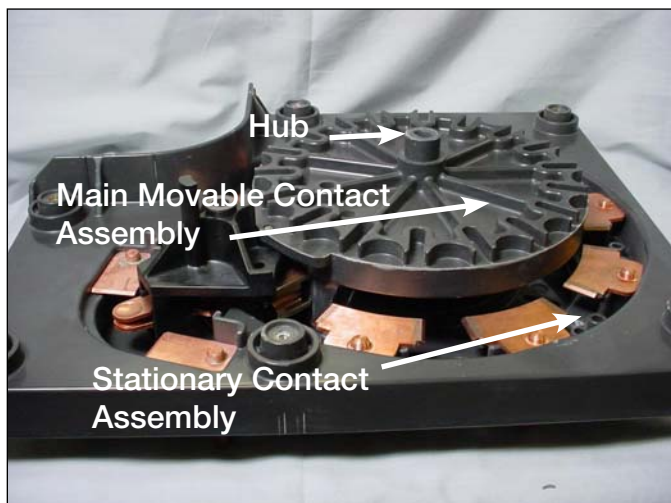

Figure 33.
3. Align the center hub of the main movable contact assembly with the center hole in the tap changer drive assembly. See Figures 33 and 34.